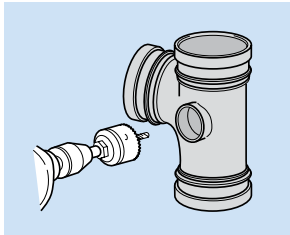

Fig. 35
- Cut out centre of boss. For correct size hole cutter refer to (Fig. 35).